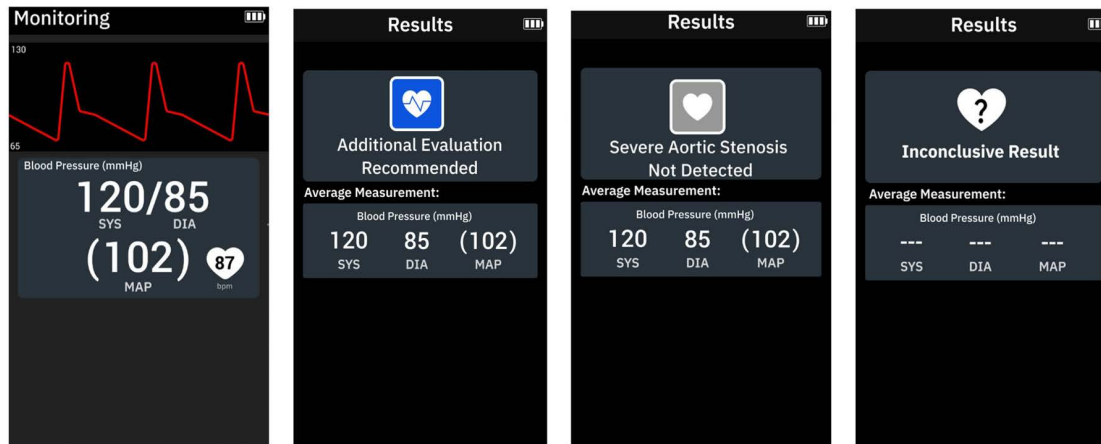

Figure 14-21 Example ASI Outputs and Display User Interface
The ASI algorithm calculates the likelihood of severe aortic stenosis using continuous reconstructed arterial blood pressure. It is able to provide an output as soon as 1 minute and may take up to ten (10) minutes from running the algorithm depending on the quality of blood pressure waveform signal. Figure 14-21 provides example displays of the user interface with possible results. The results include: